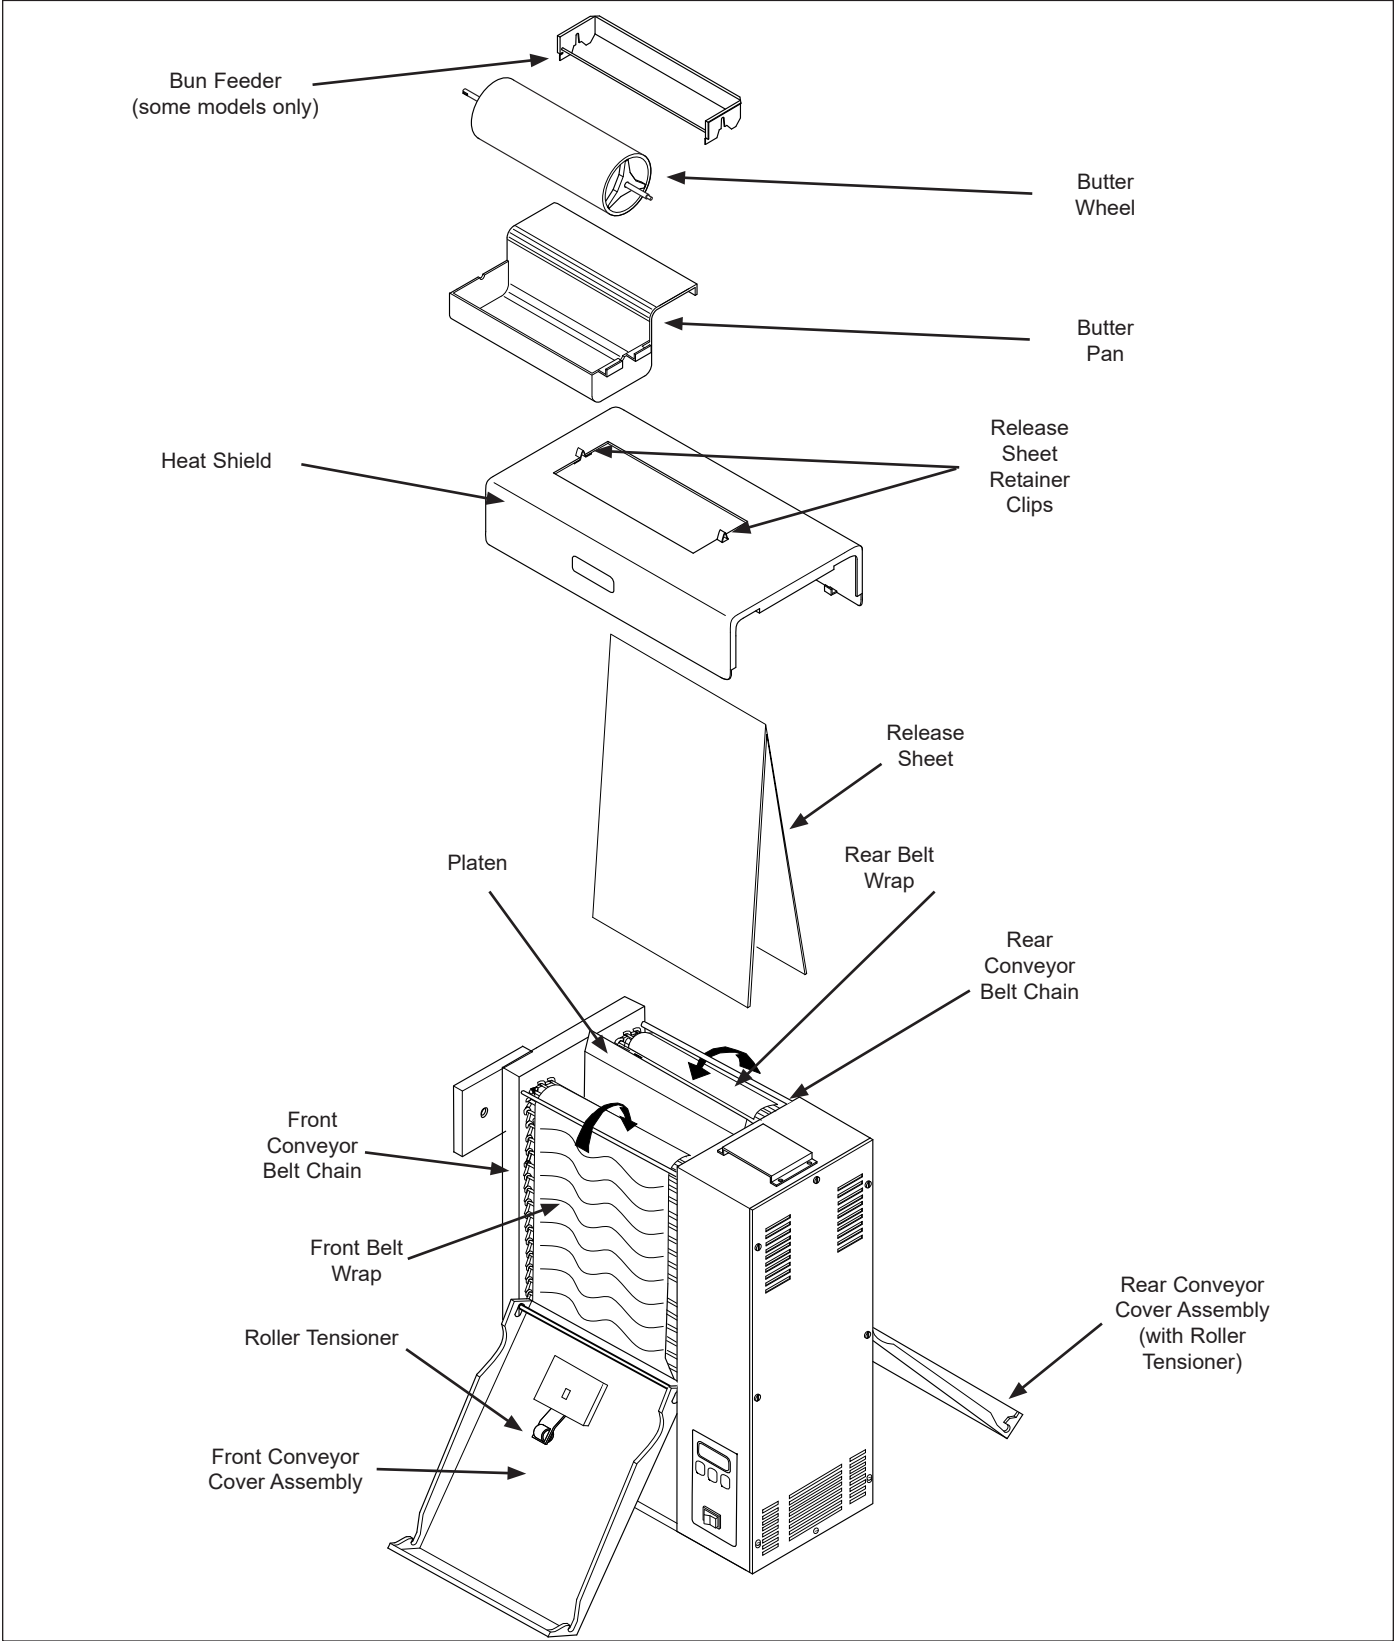

Figure 1. VCT-2000 Toaster
**NOTE:** The factory has pre-installed a Release Sheet over the Platen (Figure 1). Verify that it is properly in place before proceeding.
1. Remove Butter Wheel, Butter Pan, and Bun Feeder from the box and install (Figure 1).
2. Put on heat-resistant gloves and remove the Butter Wheel (if equipped), Pan, and Heat Shield (Figure 1).